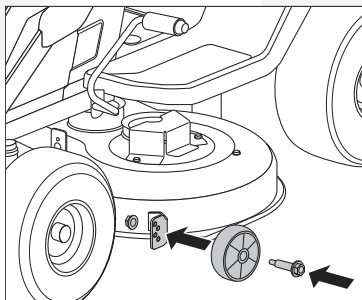

Fig. 5
1. Secure the left anti-scalp wheel with the bolt and nut provided to a torque of 22-26 ft-lbs. (Fig. 5)